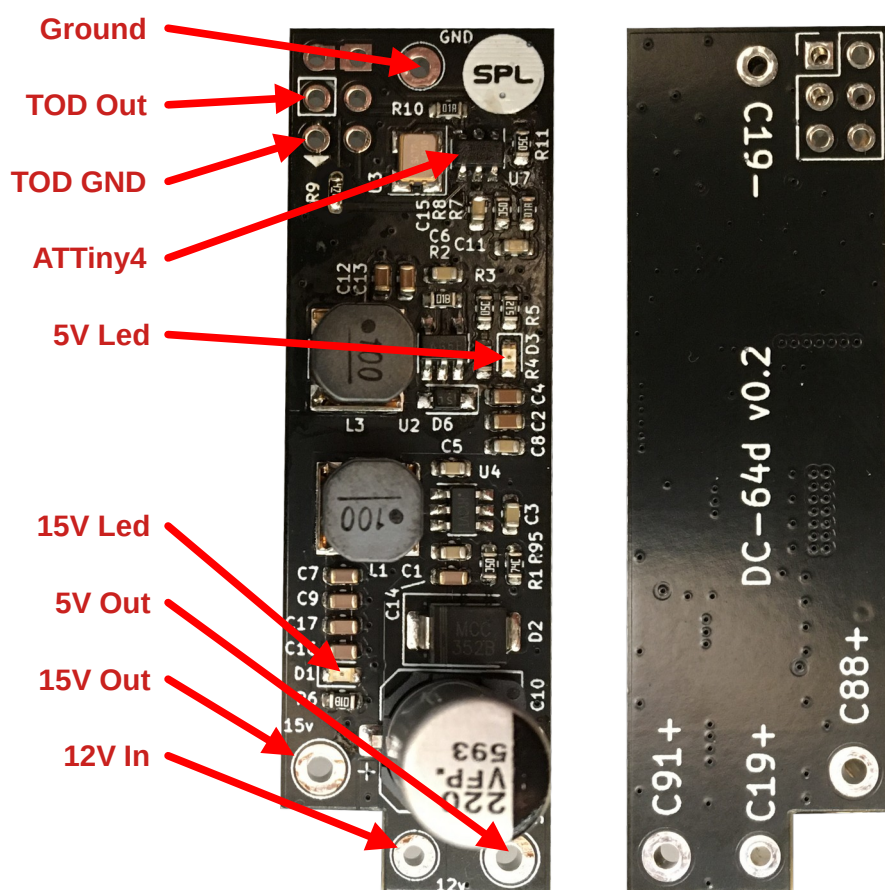

Figure 1: DC-64 Front & Back View
- Identify the TOD output pin on the DC-64 as displayed in Figure 1.